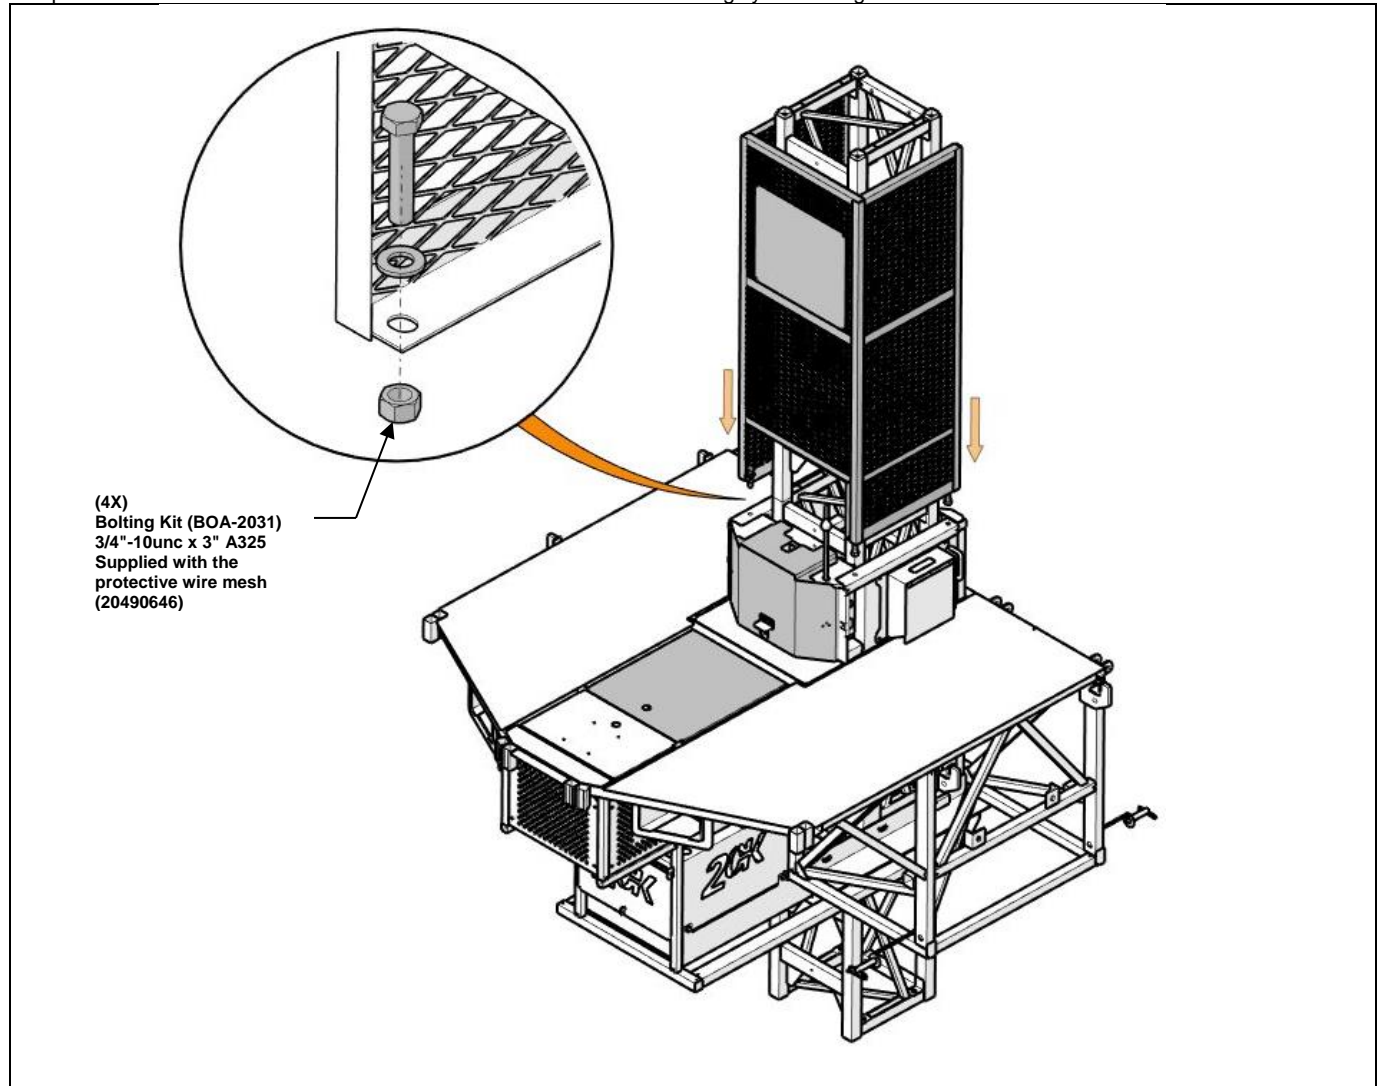

Figure 81 - protective wire mesh
- Finally lower the platform to the ground and install your bridge and extension sections in accordance with the installation instructions defined in **Chapter D**. Complete the platform installation (add fittings, guardrails and other remaining accessories...) and install the protective wire mesh on the lifting unit (See Figure 81).
- With the platform still at ground level, install your bridge and extension sections in accordance with the installation instructions in **Chapter D**. Complete the platform installation (add fittings, guardrails and other remaining accessories...) and install the protective mesh on the lifting unit (See **Figure 81**).
- Finally lower the platform to the ground and install your bridge and extension sections in accordance with the installation instructions defined in **Chapter D**. Complete the platform installation (add fittings, guardrails and other remaining accessories...) and install the protective mesh on the lifting unit (See **Figure 81**).
- With the platform at ground level, install your bridge and extension sections in accordance with the installation instructions in **Chapter D**. Complete the platform installation (add fittings, guardrails and other remaining accessories...) and install the protective mesh on the lifting unit (see Figure 81).
- Remove the protective wire mesh (see Figure 81).